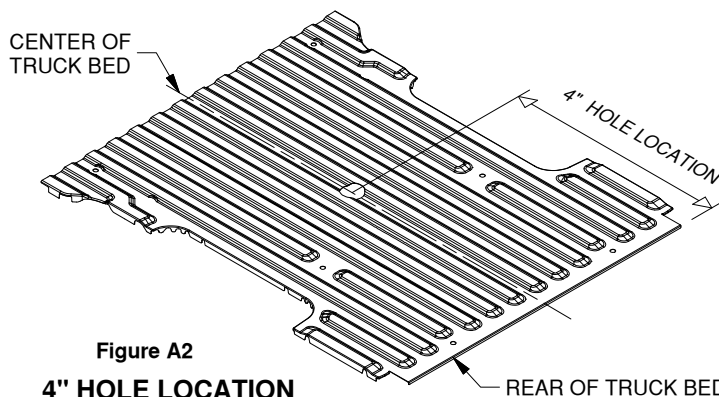

Figure A2
7. **Mark the 4" hole location.** Using a tape measure hooked over the rear edge of the bed (at tailgate end), measure the location for the hole, as shown in Figure A2. Next, locate the center of the bed by measuring the distance between the wheel wells and dividing by two. The center of the hole will be at the intersection of the center of the bed and the first distance measured.